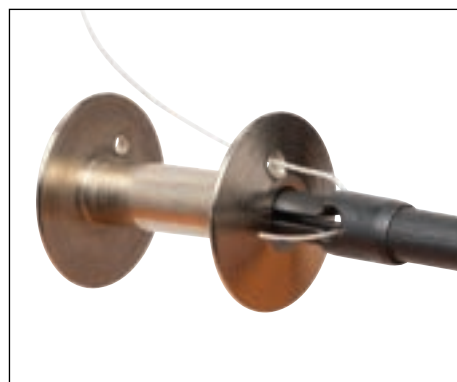

Figure 14
2. Bring the thread through the split end of the Bobbin Winder, then place the Bobbin on the Bobbin Winder. (Figure 14)